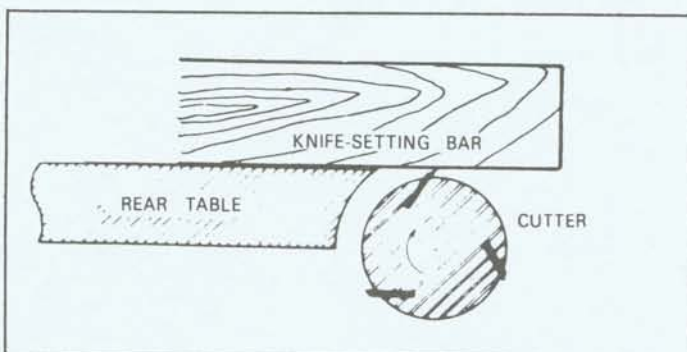

Fig.14
4. Place a knife setting bar, made of a piece of hardwood, approximately 12" long, jointed straight on one edge, on the rear table, as shown in Fig. 14.